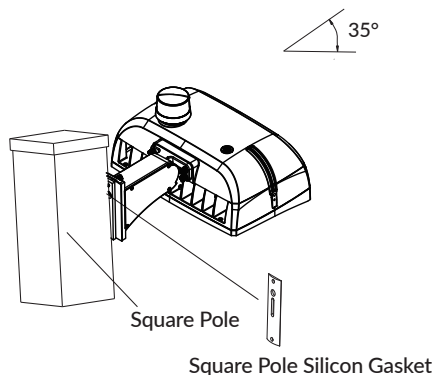

Figure 4-5
- When installing the fixture on a square pole, only use a Curved Square Pole Silicon Gasket (Figure 4-5).